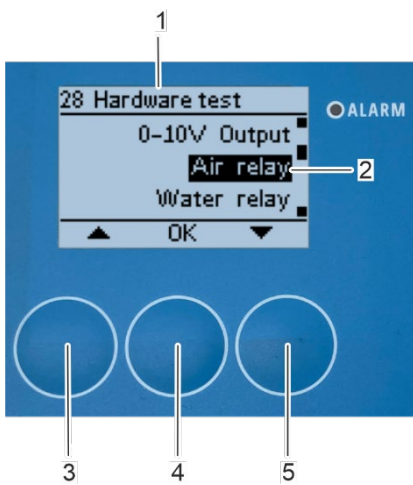

Fig. 146: Open submenu "air relay"
⇒ The "28 Hardware test" submenu (Fig. 146/1) appears on the display again, the air relay closes and compressed air flows out of the compressed air nozzle if the electrical and mechanical installation is correct.
5. After checking the compressed air relay, open the "Air relay" submenu (Fig. 146/2) again with [OK] (Fig. 146/4).